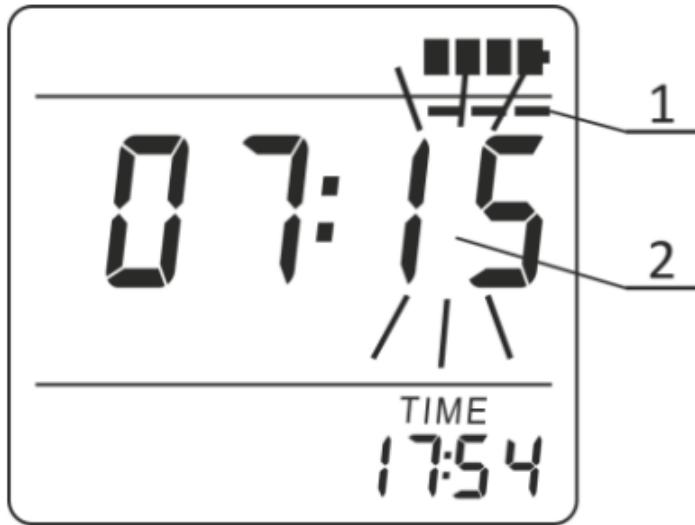

Figure 2.20 – LCD of the radiometer
- alarm clock symbol (1) (if the alarm clock is on);
- battery status symbol (2);
- time of the alarm clock triggering (3);
- current time (4).
To proceed to the submode of programming the alarm clock triggering time, press and hold THRESHOLD button until a stripe (1) “moving” across the instantaneous value indicator appears on the LCD, and the minute digits of alarm clock triggering (2) start blinking (Figure 2.20).